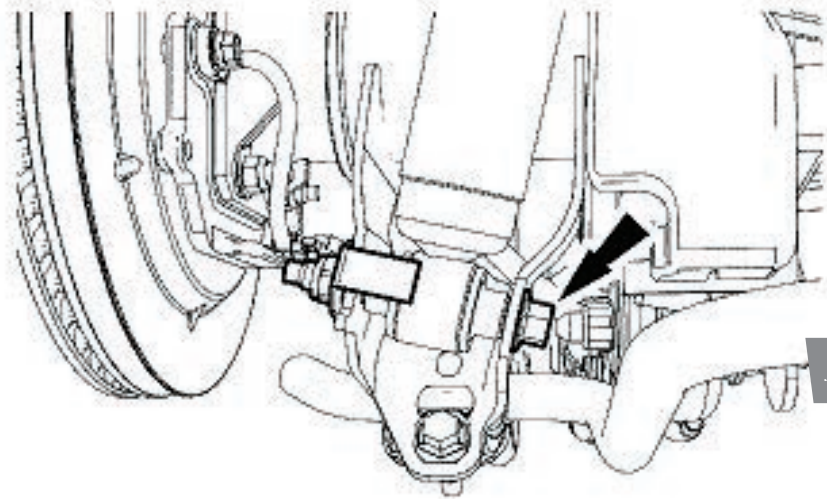

fig. 4
3. With the axle supported, remove the lower shock bolts (fig. 4).